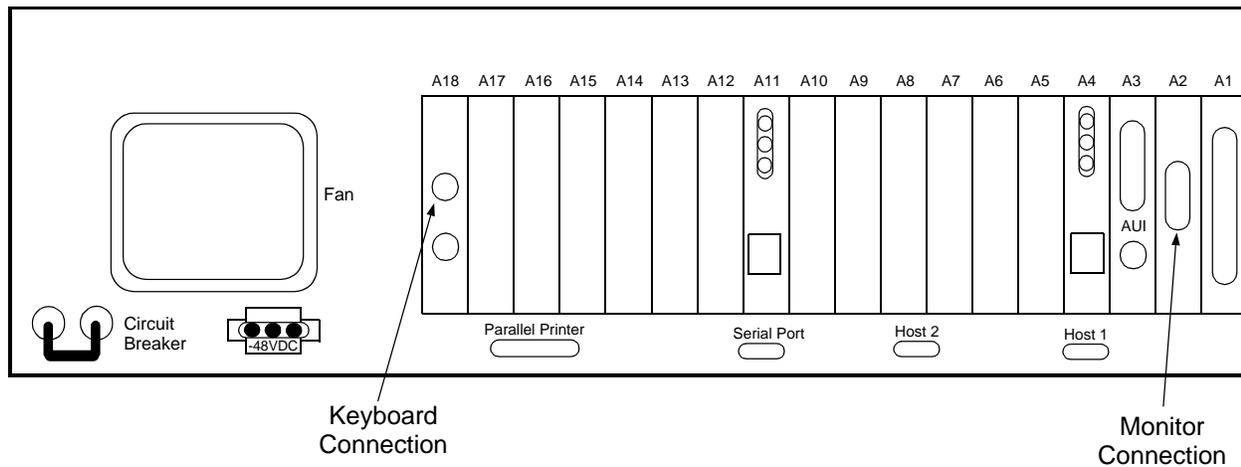

Figure 1. CDSU-I Monitor and Keyboard Connections
1. At the rear of the CDSU-I, connect the keyboard cable to the upper connector at location A18 (see Figure 1).
2. At the rear of the CDSU-I, connect the monitor cable to the connector at location A2 (see Figure 1).